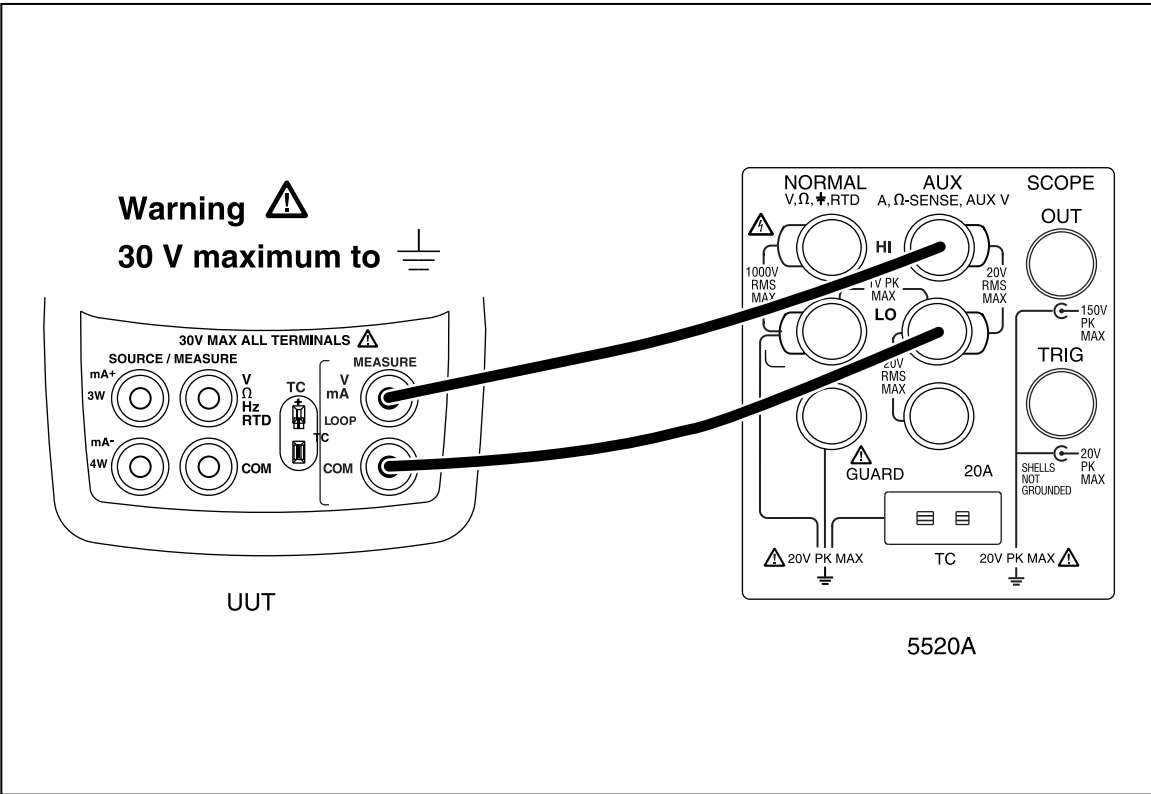

Figure 4. Upper Display mA Test Connections
- 3. Make the connections shown in Figure 4.